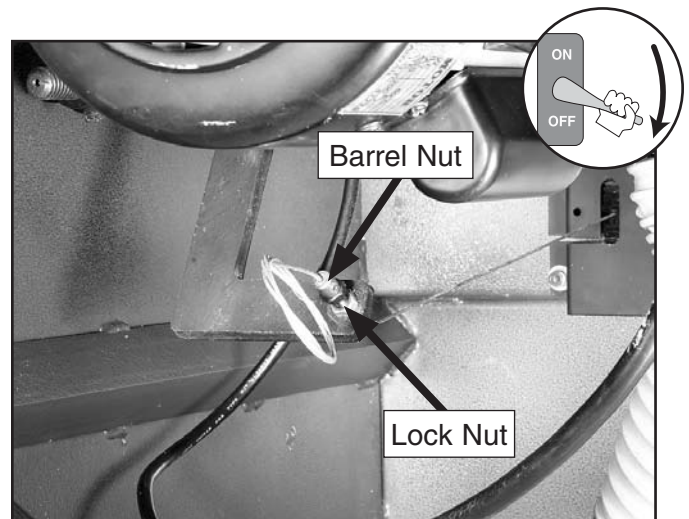

Figure 84. Scale adjustment nuts.
12. Loosen the lock nut called out in **Figure 84** and rotate the barrel nut until the scale matches the blade angle.